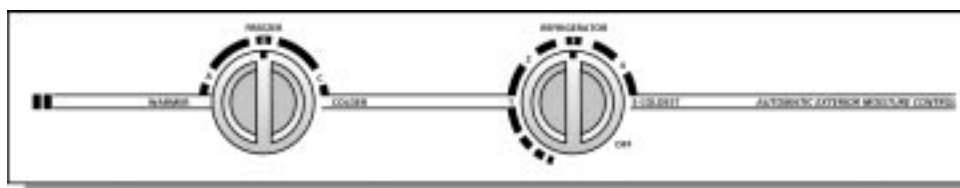

Fig. 3
3. Temperature control (thermostat knobs) (Fig. 3)